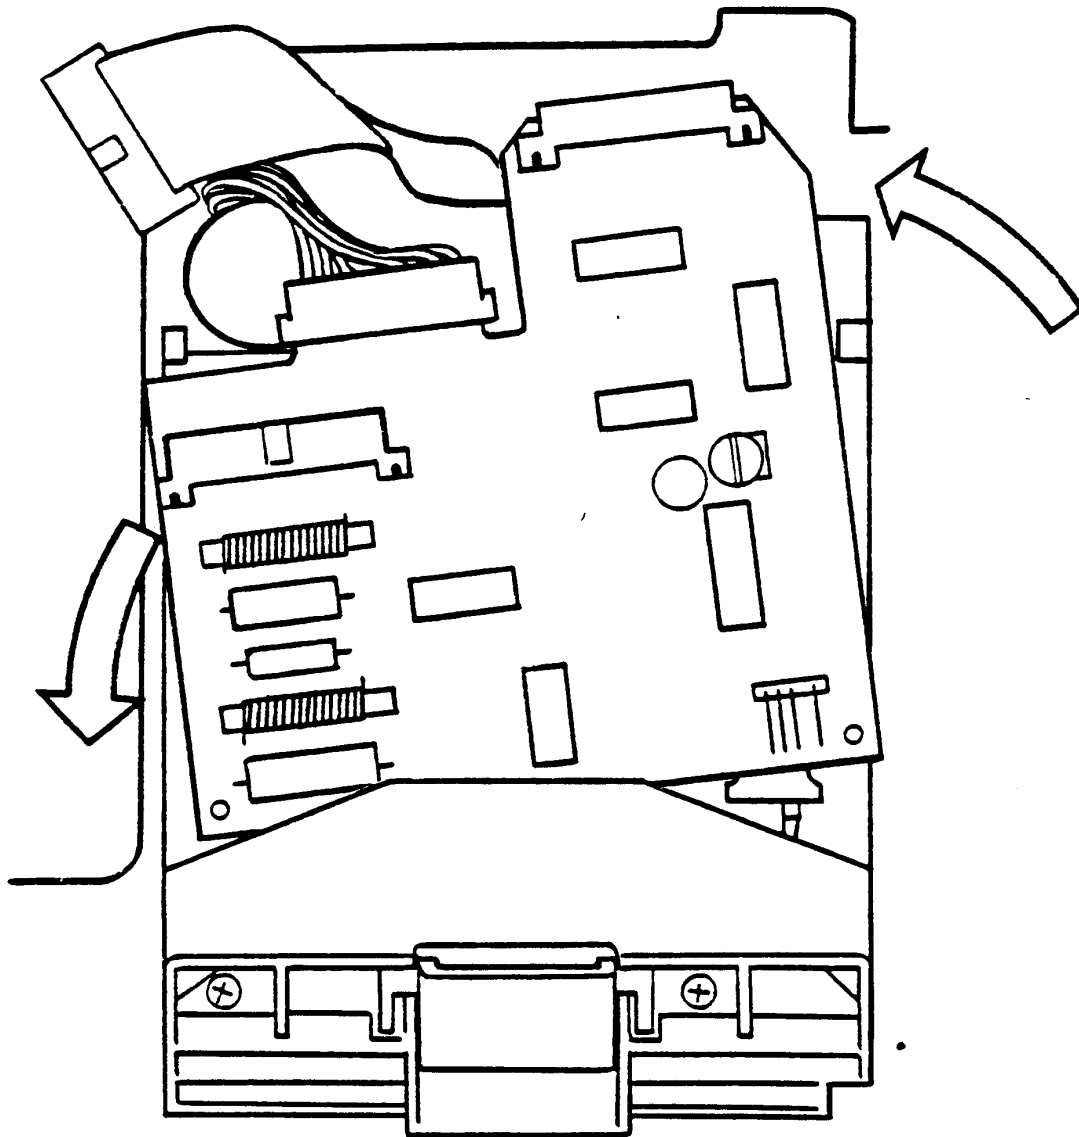

FIGURE 4.3
9. To remove the Analog board, gently slide the left front of the board forward until it clears the guide holding the left edge. Then slide the right rear of the board to the left until it clears the guide holding the right edge. Refer to Figure 4.3. Tilt up the right rear of the board and lift clear.